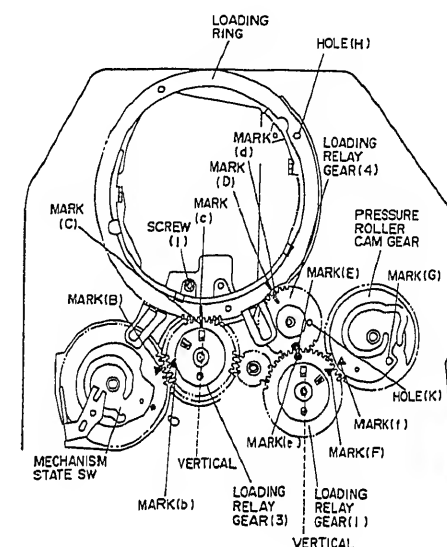

Fig. 3-2
#### 3-2. Loading Gears and Loading Ring (Figs. 3-2, 3-3)
- 1) Align the markings of the loading ring and gears as shown in Fig. 3-2.
- 1) Set the upper and lower loading rings to the state shown in Fig. 3-2. (Watch the guide roller fixing section.)
- 2) Move the upper and lower loading rings so that holes (H) overlap each other.
- 3) If holes (H) overlap each other, the phase of the loading ring is correct.
- 4) If holes (K) overlap each other, the phase of the loading relay gear (4) is correct.
### 3-2. Pull-out Pole and Impedance Roller Height Check/Adjustment (Figs. 3-2, 3-3)
<p>(A) = (B)</p> <p>Fig. 3-2</p>